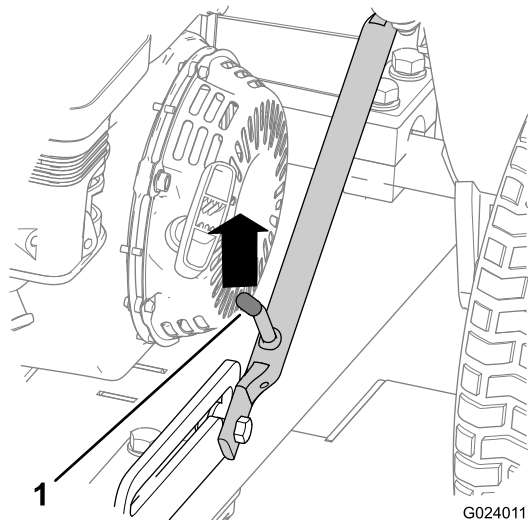
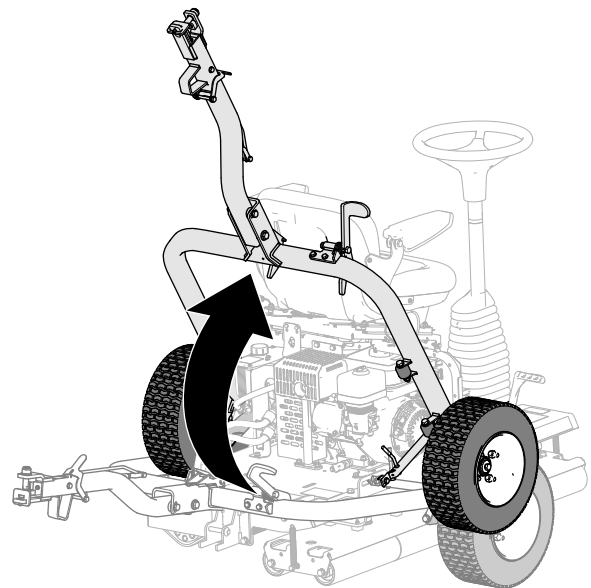

Figure 18
Figure 23
1. Push up on the hitch assembly until the latch lever is unlocked from the slide detent (Figure 18).
5. Raise the hitch (Figure 23) until the latch lever locks in the side detent (Figure 18).